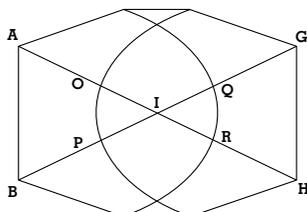

Figure 6: Top view
*Installation:* All attachments are made inside the tent. All that is needed are 4 pieces of guy cord of 100" lengths or longer, (line tighteners may be used but are optional). Some of these items have been provided complimentary with your tent. There are nine webbing loops sewn to the interior of the tent body; one in each corner of the floor at points A, B, G and H (Figure 6) and one at each of the pole intersection points in the ceiling at points O, P, Q, R and I.